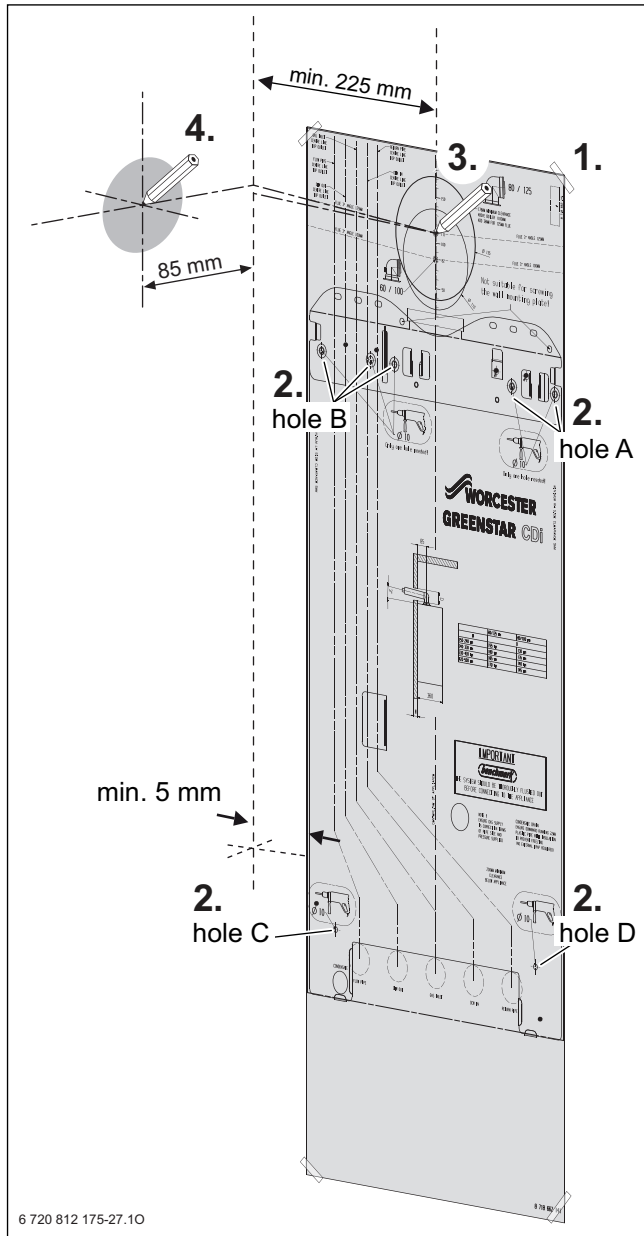

Fig. 25 Mounting template
- Fig. 25 shows the relative positions of the flue and the fixing of the wall mounting plate including hanging bracket and pre-plumbing manifold.
- ▶ Follow the Fig. 25 to mark the centre of the flue for rear outlet (3) or for side outlet (4).